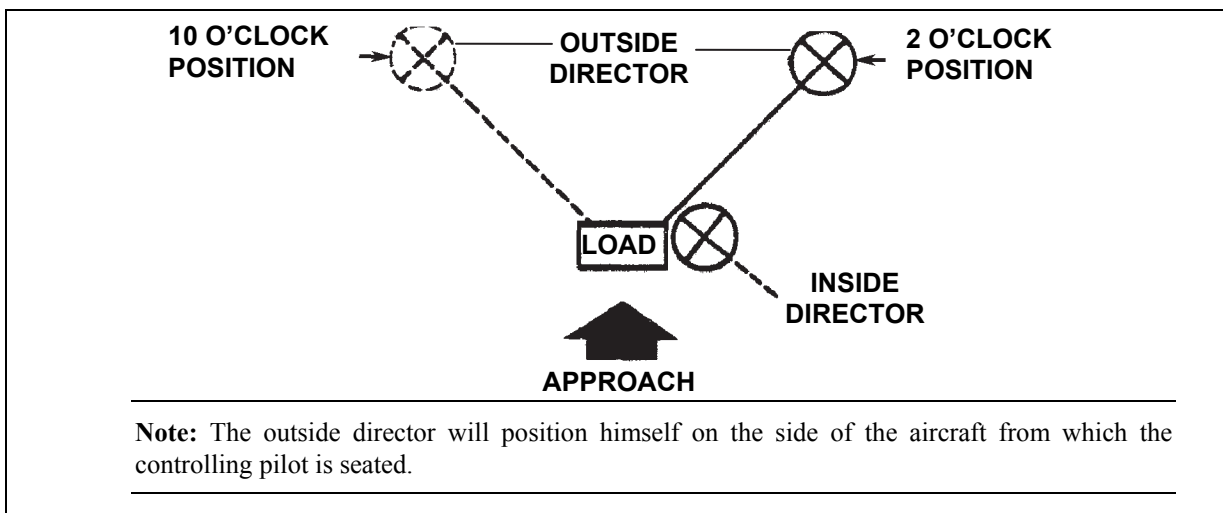

Figure 5-3. HST Initial Position
- **Positioning Personnel (USMC).** Marine Corps HST operations require different positions for the HST personnel (figure 5-3). As the helicopter approaches the landing site, the outside director is at a position of 2 (or 10) o'clock upwind of the load. From this position he is able to guide the helicopter over the load with assistance from the inside director. The helicopter crewman may also provide directional information to the pilot as the helicopter approaches the load when immediate response is required.